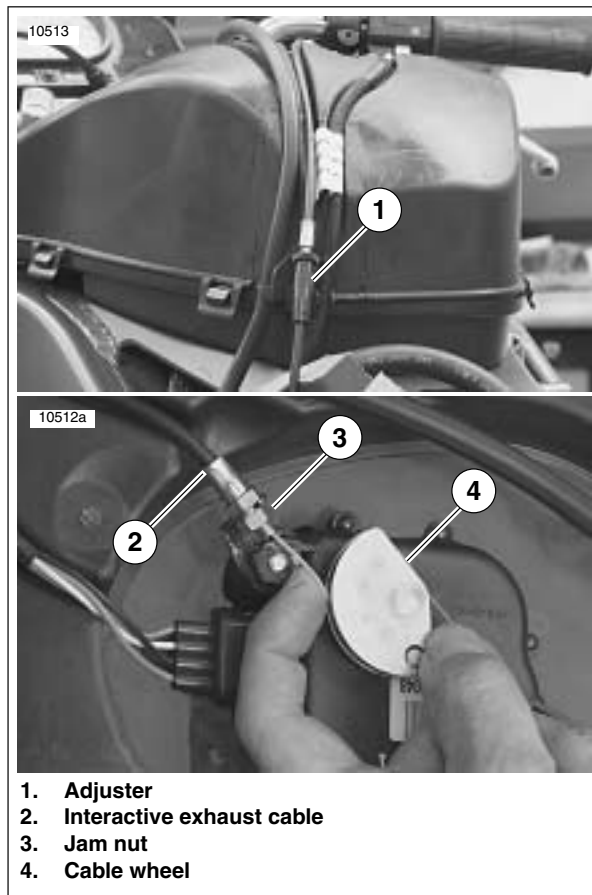

Figure 1-47. Interactive Exhaust Cable (Typical)
3. See Figure 1-47. Loosen jam nut (3).
4. Remove cable (2) from bracket and cable wheel (4).
- a. See Figure 1-47. Move cable with your fingers from side to side. There should be no more than 1/8 in. (3.2 mm) side play in cable in either direction with 1/4 in. (6.4 mm) maximum overall side play.
- b. Adjust cable as needed using cable adjuster (1).